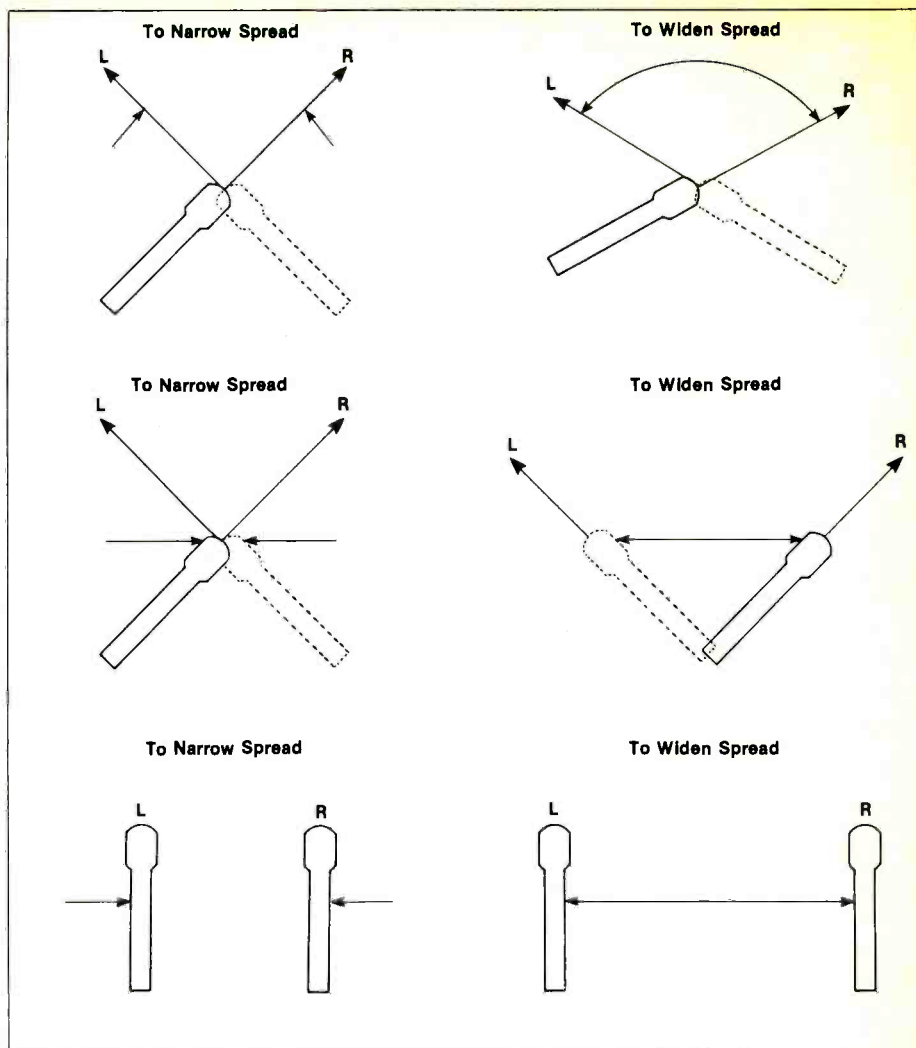

Fig. 6: Stereo spread control.
6.) Now check the stereo localization accuracy. Record yourself speaking from various locations in the orchestra area while announcing your position (e.g., "left side," "mid left," "center"). If the reproduced stereo spread is too narrow, increase the angle or spacing between microphones until localization is accurate. Do the opposite to reduce excessive separation (see Figure 6). Increasing the angle between microphones will also make the orchestra sound farther away, so you will have to place the microphone stand a little closer to the